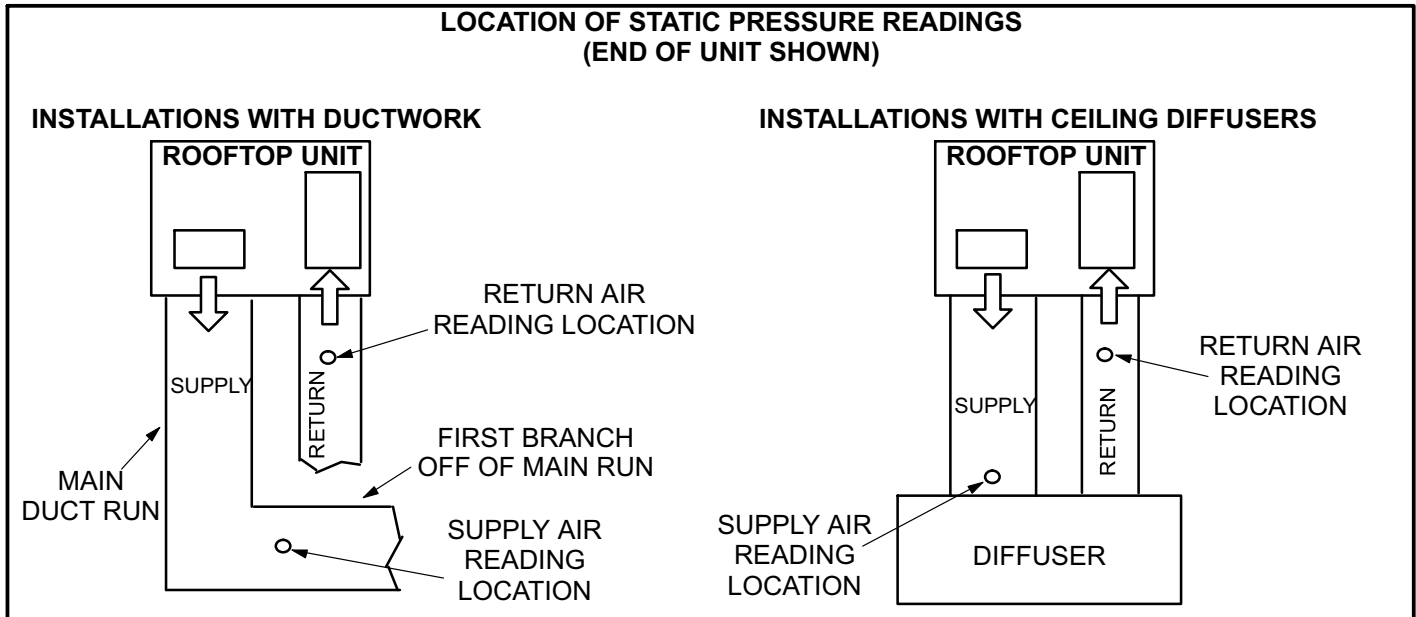

FIGURE 6
- 2- With all access panels in place, measure static pressure external to unit (from supply to return). Blower performance data is based on static pressure readings taken in locations shown in figure 6.